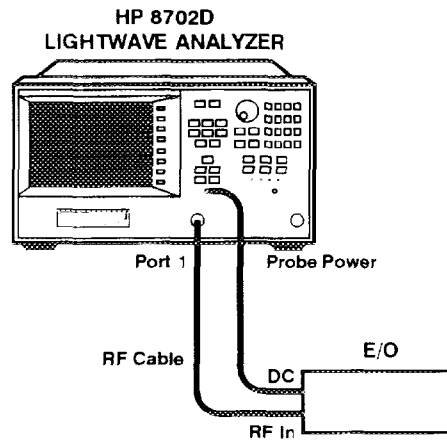

Figure 2-2. Electrical Reflection Configuration
- 2 Connect the equipment as shown in Figure 2-2.